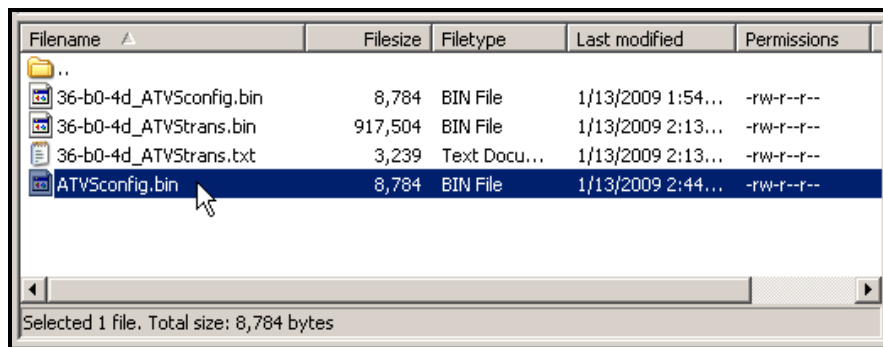

Figure 4-25. FTP Server Configuration & Transaction Files.
At the same time a Backup transaction text file is created, a Backup transaction binary file is also created. This binary file can be used by the Restore utility to restore the transaction database in a clock. This should only be necessary if the clock's flash memory was reset. The following figure shows a Backup configuration and transaction file for the same clock on an FTP Server. In the illustration, the first file labeled “36-b0-4d\_ATVSTransConfig.bin” is the configuration file for that clock. The highlighted file (see Figure 4-25) called “ATVSTransConfig.bin” is the shared configuration file for multiple clocks. This file can be used by the Auto-Sync Utility to copy this configuration to multiple clocks.
3. Select the radio button for "**Are you restoring this clock based on shared settings or is it specific to this clock only?**" The choices are: **Specific**, or **Shared**. Select Specific if you are restoring only the clock you are connected to. Select Shared if you are using the shared settings file (possibly a different clock) to transfer to this clock. See *Figure 4-25* for an example of a shared configuration file. The shared file does NOT have the MAC address. It is important to note, that when restoring a clock all the information will be changed except for the clock name. The current name in the clock will remain unchanged so that clock retains this unique identifier.